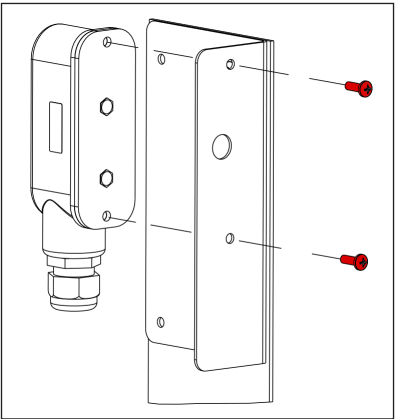

Figure 10: Position Light Sensor on Mounting Bracket
- b. Position the light sensor on the flange of the mounting bracket and secure the sensor in place with the two screws from **Step 3.a**. Refer to **Figure 10**.